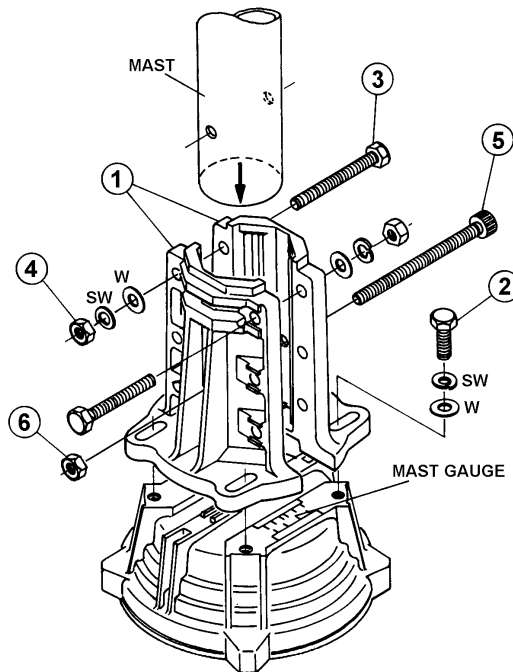

Figure 13
4. Partly tighten the mast clamp ① to the rotator housing using the supplied M8 x 30 bolts ② spring washers and flat washers (see Figure 13).
5. Using a "gin pole" or other raising fixture, insert the antenna mast through the bearing from above, and set the mast in the rotator's mast clamps, then partly tighten the mast clamps using the supplied M8 x 70 bolts ③, spring washers and flat washers.